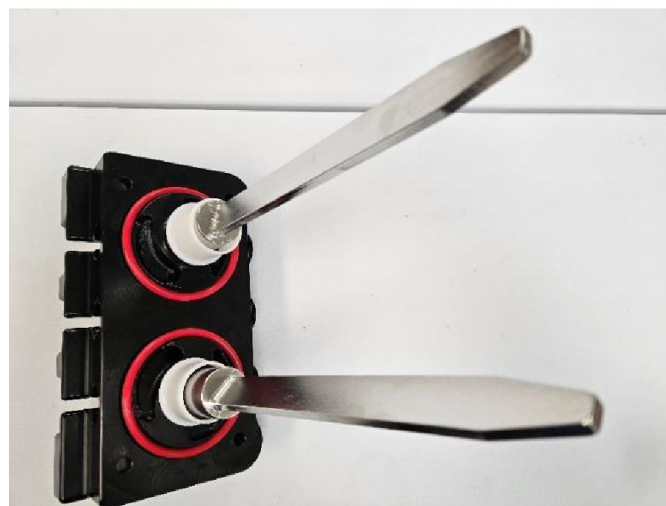

Figure 5-8
12. Fasten the two pairs of freezer door bolts. Do this by hand, tightening them diagonally as shown in Figure 5-8. (Top left and bottom right, then tighten bottom left while tightening the top right). Fasten tightly. If they are loose, the soft serve product can leak.